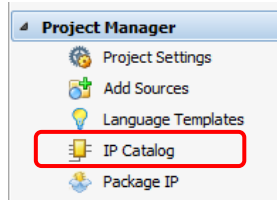

Figure 14. IP Catalog
- 2-2-15.** In the Flow Navigator, under the **Project Manager**, click **IP Catalog** command to verify the presence of our frequency_trigger IP in the **IP Catalog** (Figure 14)